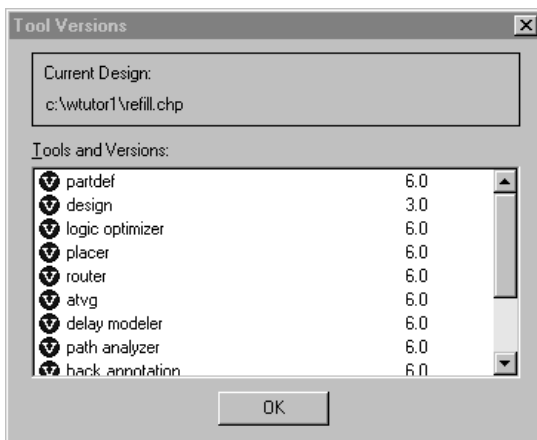

Figure 12 Typical Tools Versions dialog box
*Tool Versions* is provided for diagnostic purposes. *Tool Versions* lists the tools that have been run on the current design, including the version number of each tool listed (Figure 12).